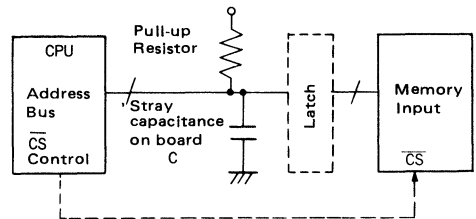

Figure 8-7
- A: Insert latch as shown in Figure 8-7 lest Address Input should become floating.